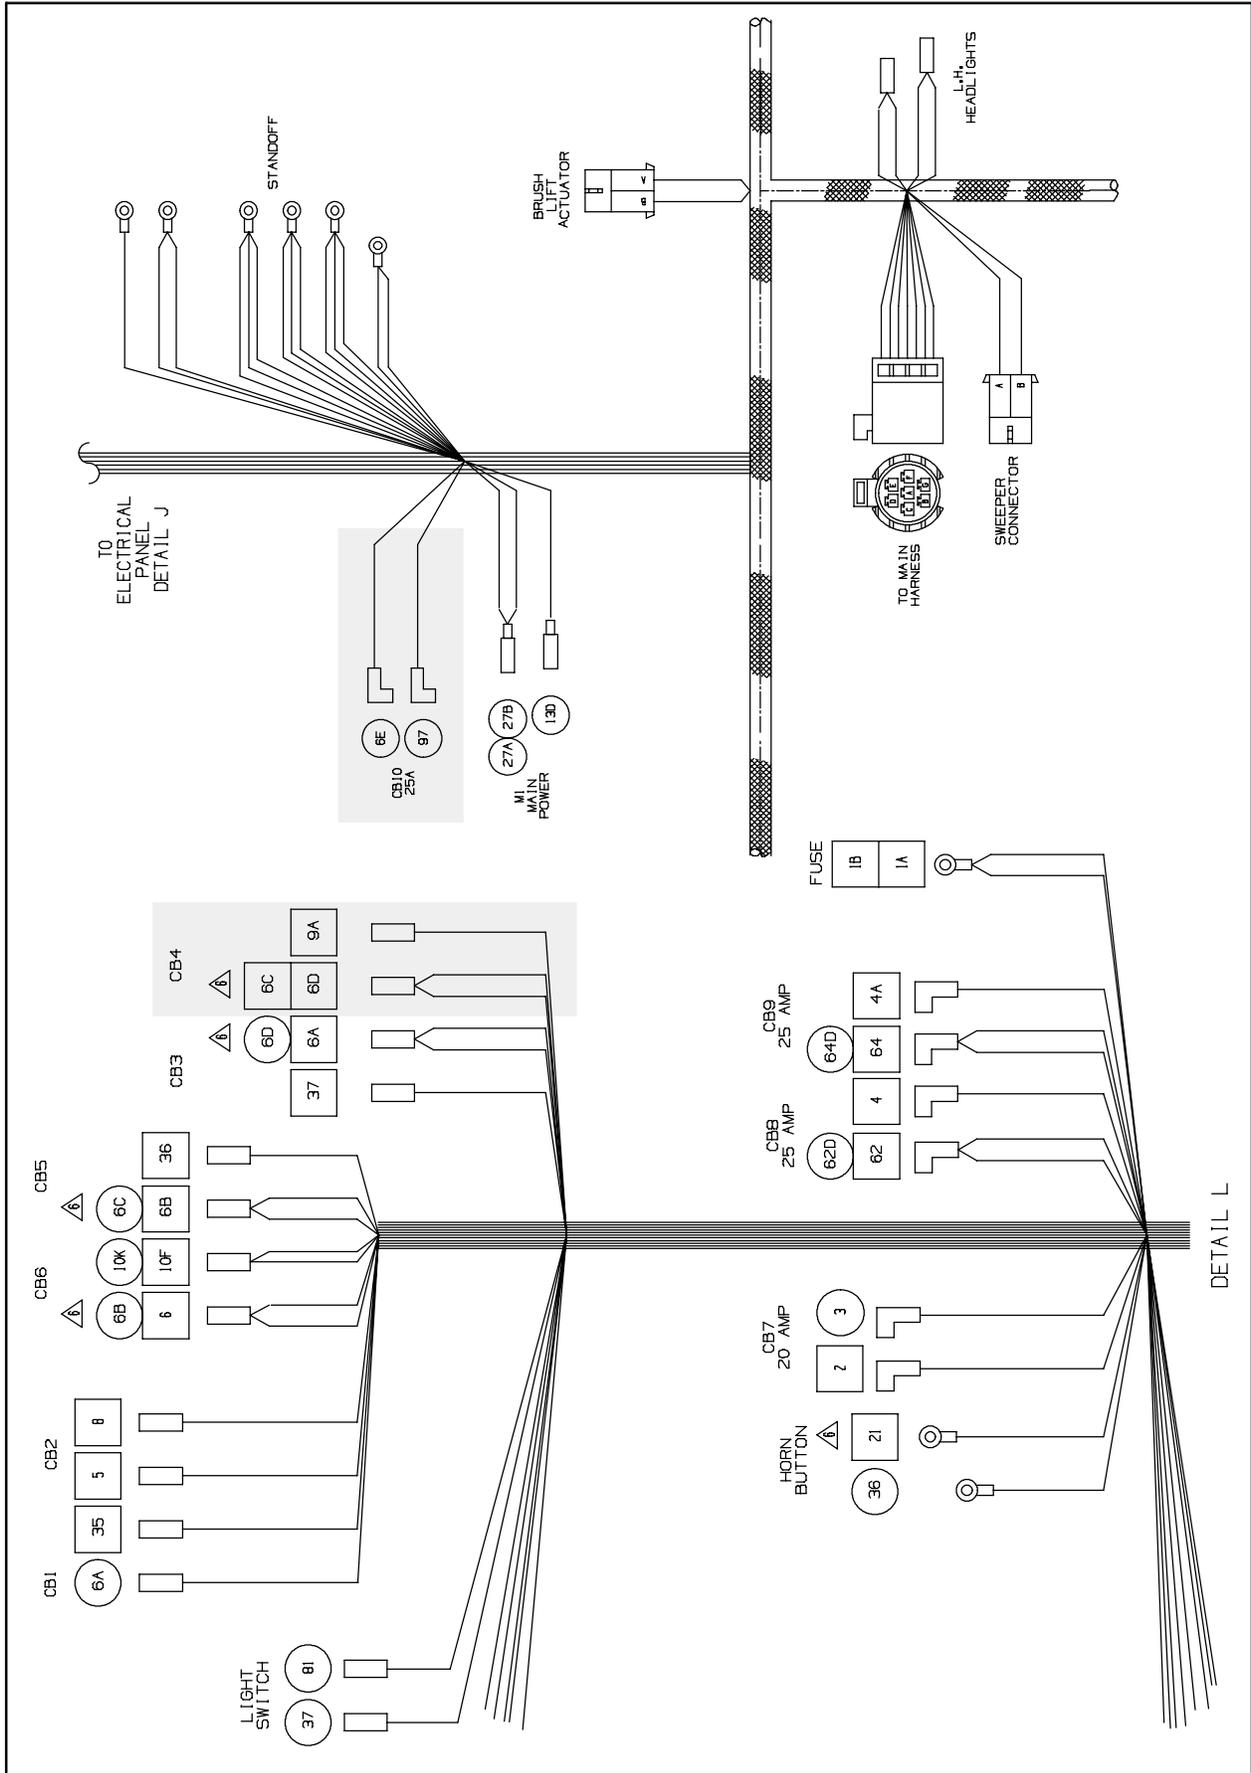

FIG. 15 - Main Wire Harness Diagram
- Connect the main wire harness to the 25-Amp circuit breaker (8). Refer to Fig. 15.
- Connect the main wire harness to the 10-Amp circuit breaker (9). Refer to Fig. 15.